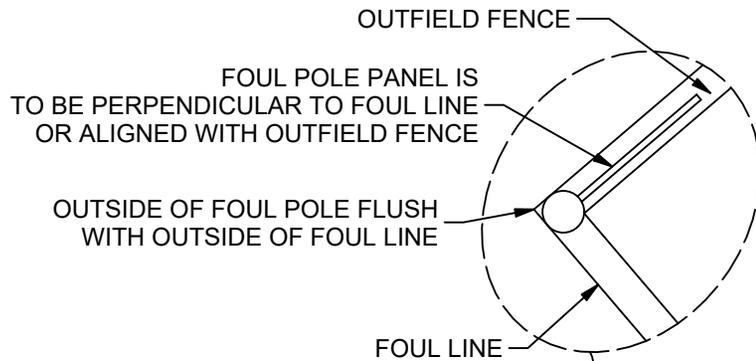
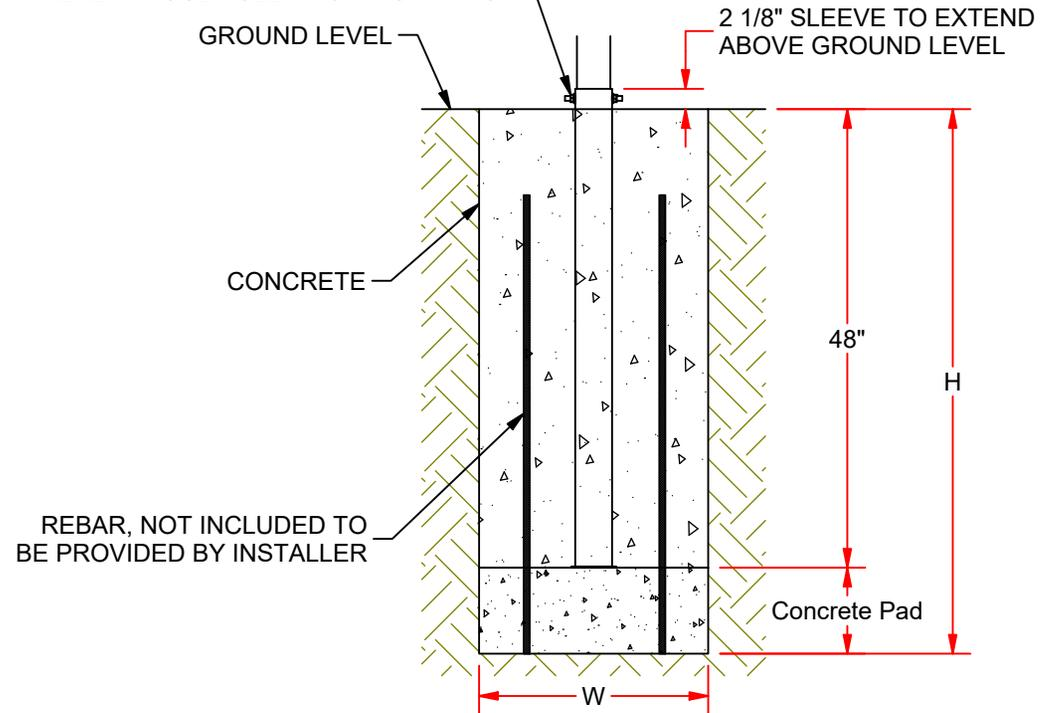

FIGURE 1
FIGURE 2
- 1) Determine the proper location for the foul poles on the playing field, see figure 1. Excavate the footing holes to the dimensions shown in figure 2. These are suggested dimensions for average soil conditions, consult local building codes.
- 2) Pour concrete pad at the bottom of the footing, allow to cure for 24 hours (see figure 2). A six-piece rebar basket made of 5/8" x 48" rebar is recommended.
- 3) Place the ground sleeve into the footing and fully support it in a plumbed position (figure 2).